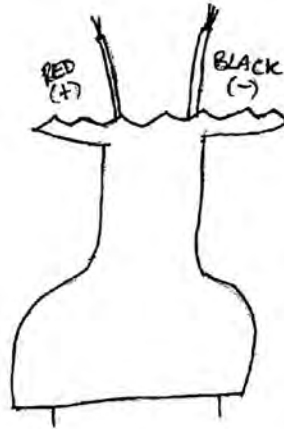

Fig. 2
3. Cut drill: With a hacksaw, cut the drill off at or just below the trigger. Push the battery wires down into the drill so you don't cut through them. Afterwards it should look like Figure 2.